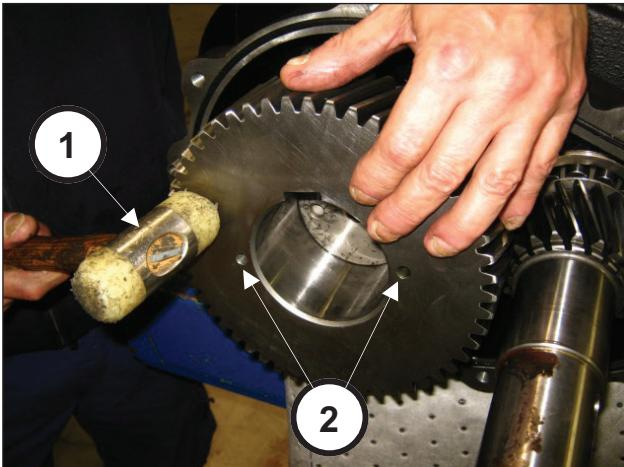

Fig. 70
Apply the 2 Ø10x24 pins on the reduction gear box (pos. ①, Fig. 70) and insert the O-ring (pos. ①, Fig. 71).